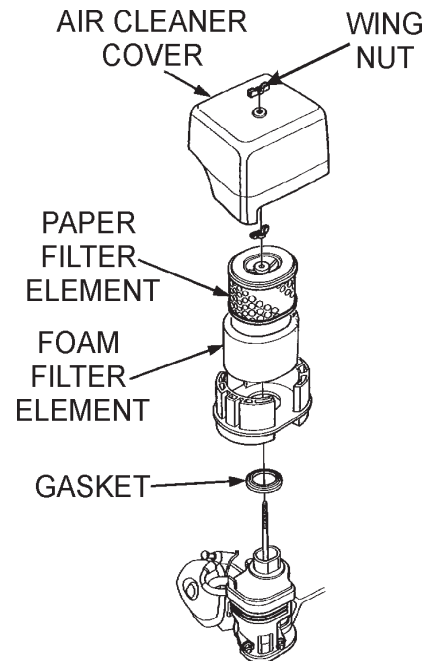

Figure 21. Engine Air Cleaner
1. Remove the air cleaner cover and foam filter element as shown in Figure 21.
2. Tap the paper filter element (Figure 21) several times on a hard surface to remove dirt, or blow compressed air [not exceeding 30 psi (207 kPa, 2.1 kgf/cm2)] through the filter element from the air cleaner case side. **NEVER** brush off dirt. Brushing will force dirt into the fibers. Replace the paper filter element if it is excessively dirty.